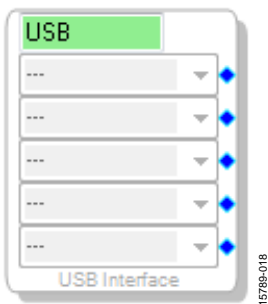

Figure 16. USBi Detected by SigmaStudio
- a. When SigmaStudio detects the **USBi**, the background of the **USB** label is green in the **USB Interface** box (see Figure 16).